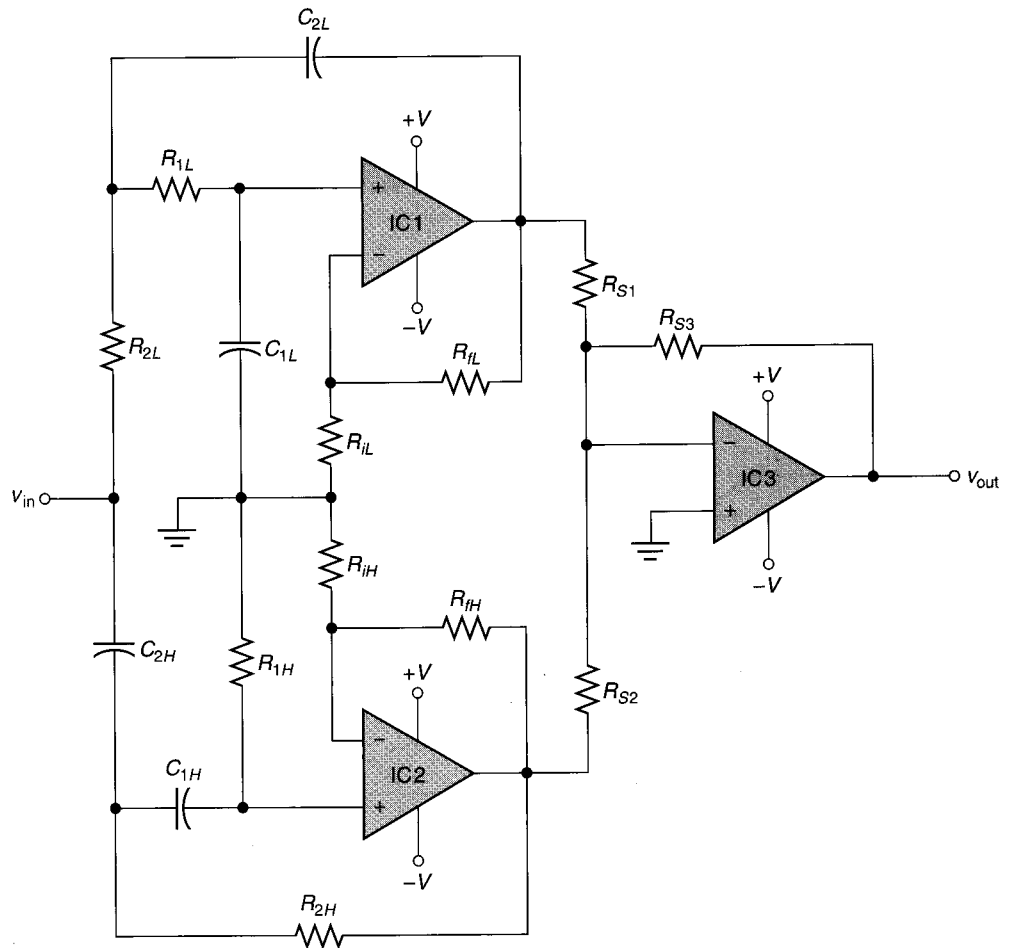

FIGURE 17.26 A multistage notch filter.
The circuit represented in Figure 17.25 is constructed as shown in Figure 17.26. While the circuit appears confusing at first, closer inspection shows that it is made up of circuits that we have already discussed. The low-pass filter consists of the op-amp labeled IC1 and all the components with the  $L$  subscript. This low-pass filter, though drawn differently than you are used to seeing, is identical to the low-pass input stage of the band-pass filter in Figure 17.20. The high-pass filter consists of the op-amp labeled IC2 and all the components with the  $H$  subscript. This circuit is identical to the high-pass output stage of the band-pass filter in Figure 17.20. Finally, the summing amplifier is made up of the op-amp labeled IC3 and all the components with the  $S$  subscript. Despite the complex appearance of the circuit, it operates exactly as described in our discussion of the notch filter block diagram.
The frequency analysis of the notch filter shown in Figure 17.26 is identical to that of the two-stage band-pass filter. First, the cutoff frequencies of the low-pass and high-pass
8. Describe the operation of the multistage notch filter in Figure 17.26.
9. How would you analyze the frequency response of a notch filter like the one in Figure 17.26?